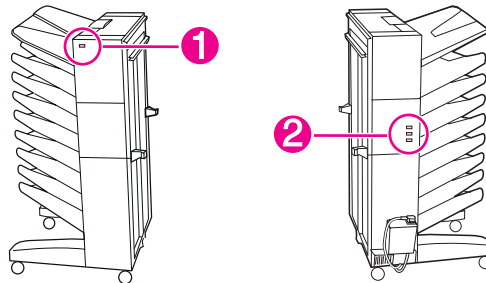

Figure 7-22 8-bin Mailbox LEDs Description
- **User LED.** The first is a single LED located on the right side of the top cover (Figure 7-22, callout 1). This User LED provides information to the end user about the 8-bin Mailbox power-on status and the attachment and alignment to the printer.
- **Service LEDs.** The second set is formed by three independent LEDs located in the middle of the left side cover (Figure 7-22, callout 2). This group is called the Service LEDs, and they show additional technical information to decode the 8-bin Mailbox status.